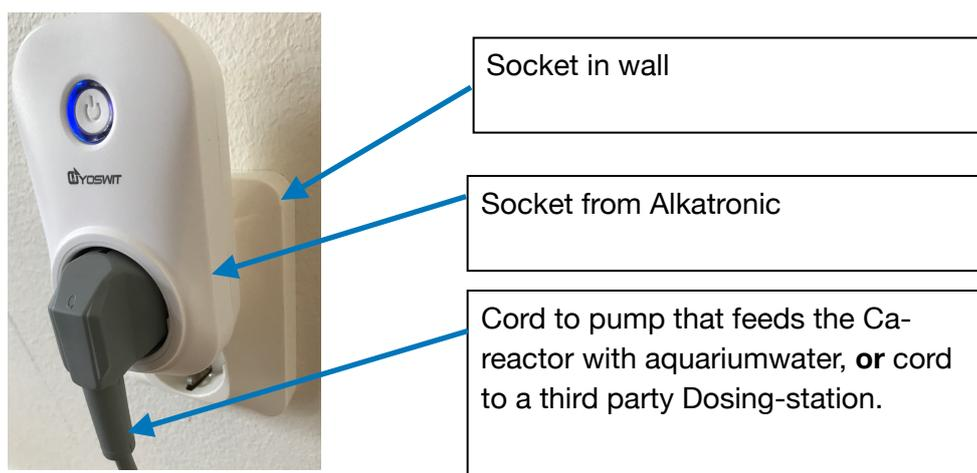

Figure 4
- 2) Put the cord from the pump that feeds the calcium reactor with aquarium water into the Alkatronic socket. See Figure 4.
- 2) Plug the cord from the dosing station of Balling solutions into the Alkatronic socket. See Figure 4